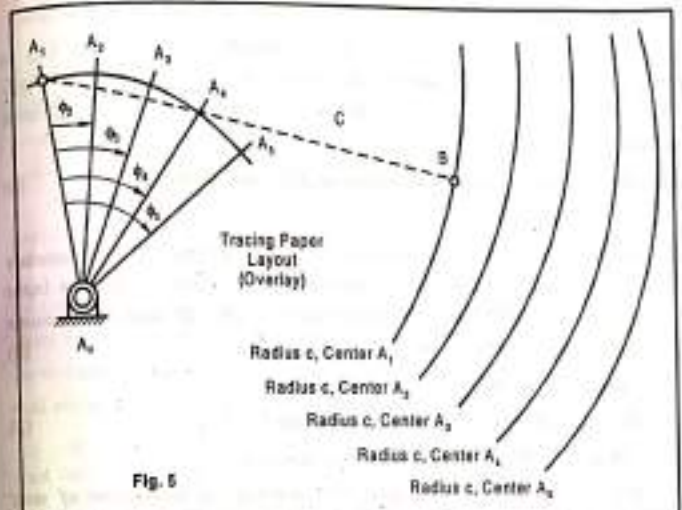
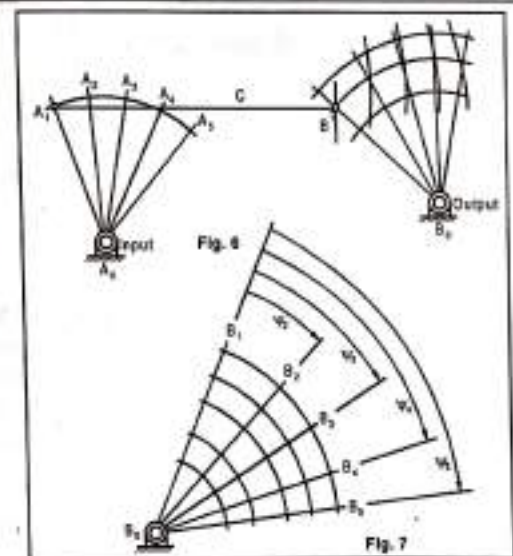

Fig. 5
Fig. 7
1. On tracing paper layout the input crank positions and select lengths for the input and coupler links (see Fig. 5)
3. Place the first layout on the second and move until the family of arcs of (fig. 5) falls on the respective positions of the output crank as shown in figure 7.